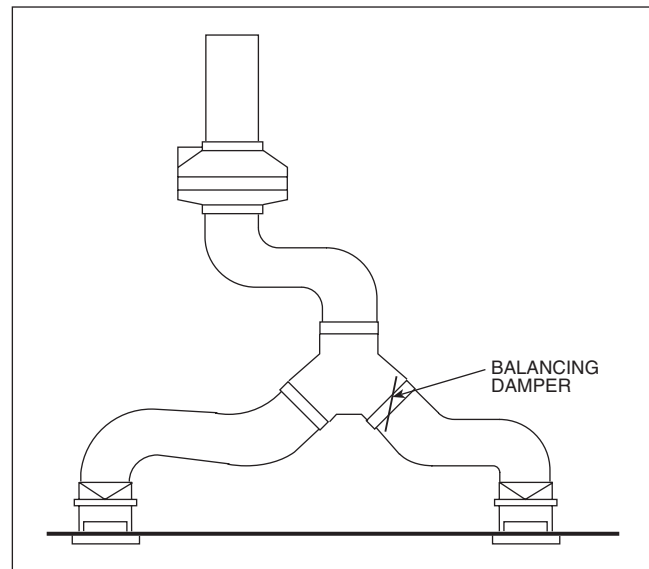

Fig. 2 — Deluxe Kit Balancing Damper — Installed
6. Adjust the damper to balance the airflow and tighten the wing nut when finished. Refer to Fig. 2.